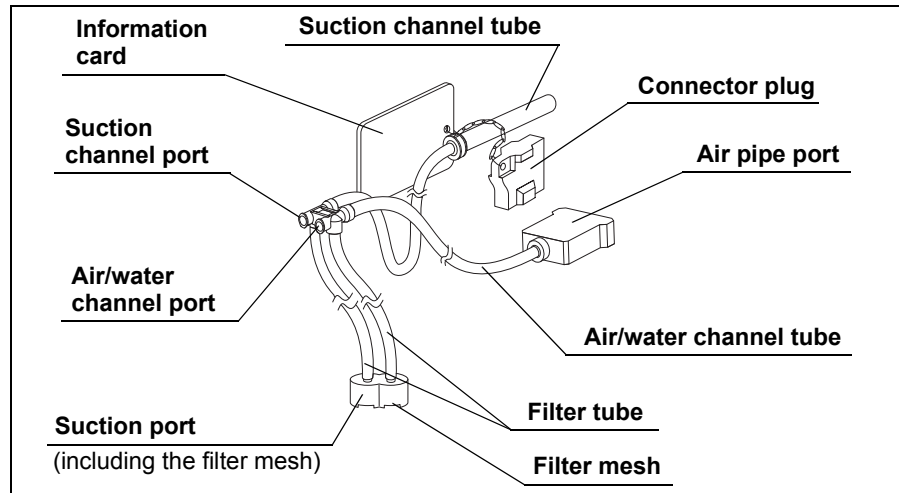

Figure 2.6
1. Confirm that all components of the injection tube are free from cracks, scratches, flaws, and debris (see Figure 2.6).